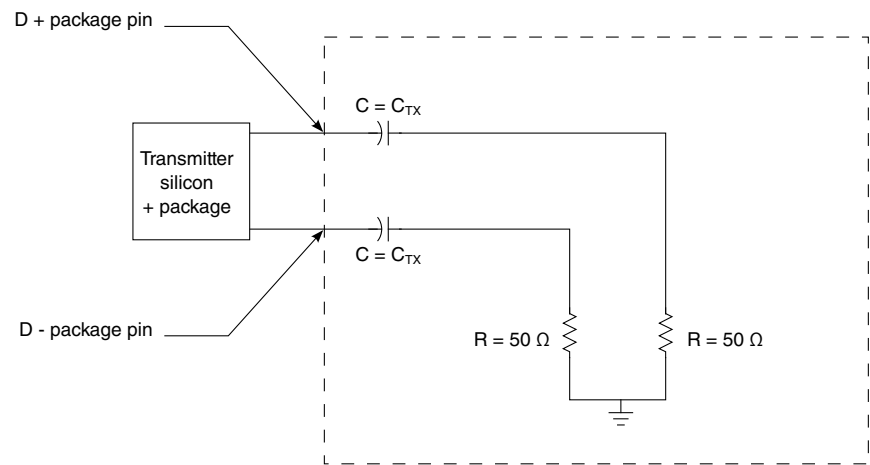

Figure 76. Test/measurement load
1. Specified at the measurement point into a timing and voltage test load as shown in Figure 76 and measured over any 250 consecutive transmitter UIs.
1. Specified at the measurement point and measured over any 250 consecutive UIs. The test load in Figure 76 must be used as the receiver device when taking measurements. If the clocks to the receiver and transmitter are not derived from the same reference clock, the transmitter UI recovered from 3500 consecutive UI must be used as a reference for the eye diagram. 2. A $T_{RX-EYE} = 0.40$ UI provides for a total sum of 0.60 UI deterministic and random jitter budget for the transmitter and interconnect collected any 250 consecutive UIs. The TRX-EYE-MEDIAN-to-MAX-JITTER specification ensures a jitter distribution in which the median and the maximum deviation from the median is less than half of the total. UI jitter budget collected over any 250 consecutive transmitter UIs. It must be noted that the median is not the same as the mean. The jitter median describes the point in time where the number of jitter points on either side is approximately equal as opposed to the averaged time value. If the clocks to the receiver and transmitter are not derived from the same reference clock, the transmitter UI recovered from 3500 consecutive UI must be used as the reference for the eye diagram. 3. It is recommended that the recovered transmitter UI is calculated using all edges in the 3500 consecutive UI interval with a fit algorithm using a minimization merit function. Least squares and median deviation fits have worked well with experimental and simulated data. 4. For recommended operating conditions, see Table 3.